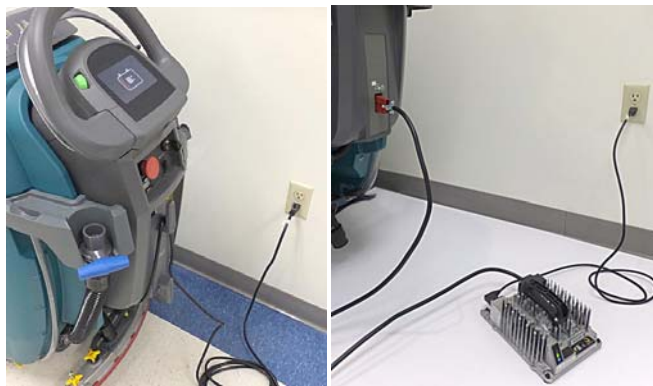

FIG. 108
13. Charge batteries (Figure 108). See BATTERIES.